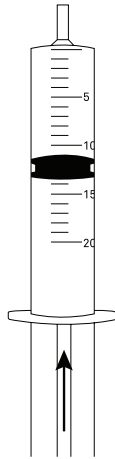

Figure 15 Fill reservoir syringe
3. Turn the syringe upside down and remove residual air Figure 15.